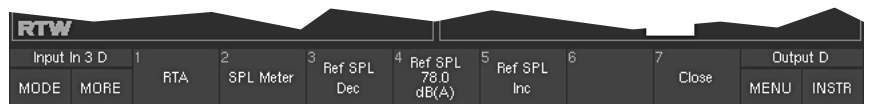

Fig. 3-17: Second Toolbar function level of the CAL instrument (displayed by selecting MORE)
(Button/key 1 – second level, see Fig. 3-17)
(Button/key 2 – second level, see Fig. 3-17)
(Button/key 3 – second level, see Fig. 3-17)
(Button/key 4 – second level, see Fig. 3-17)
(Button/key 5 – second level, see Fig. 3-17)
(Button/key 7 – second level, see Fig. 3-17)